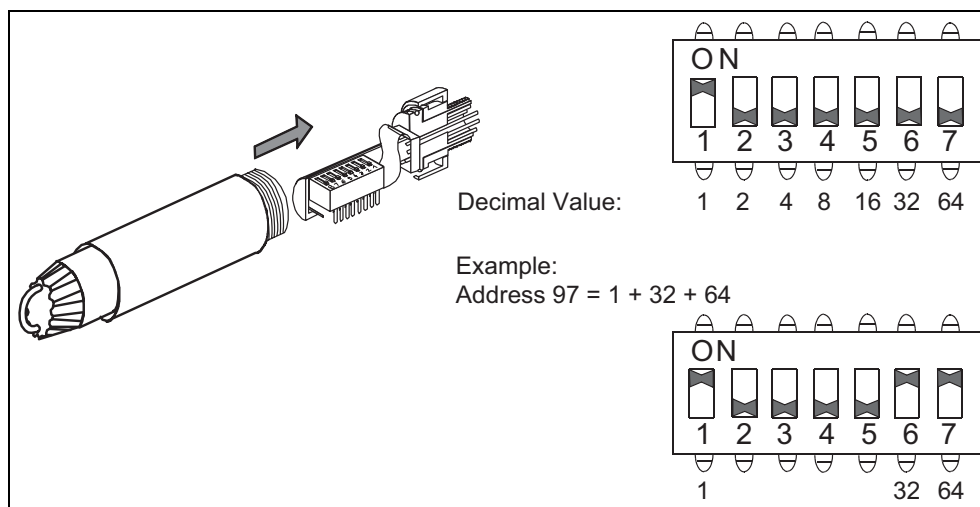

Figure 2-18 ECOFAST PROFIBUS Address Identification Plug
3. Configure the PROFIBUS address using the Address Identification Plug. See Figure 2-18 (order number: 6ES7-194-1KB00-0XA0)